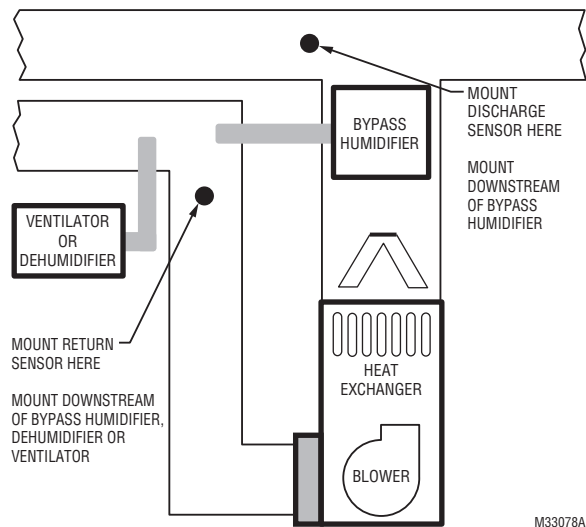

Fig. 11.
4. If a Bypass Humidifier is installed, mount the Discharge Air Temperature Sensor downstream of the Bypass Humidifier. See Fig. 11–12.